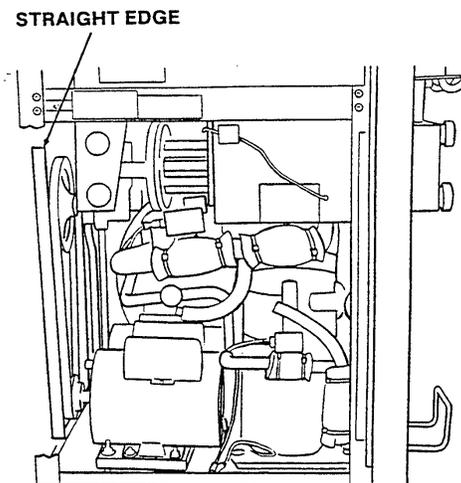

Figure 64. Motor Pulley Adjustment
4. Align the motor pulley to the top pulley and tighten the setscrew (Figure 64).